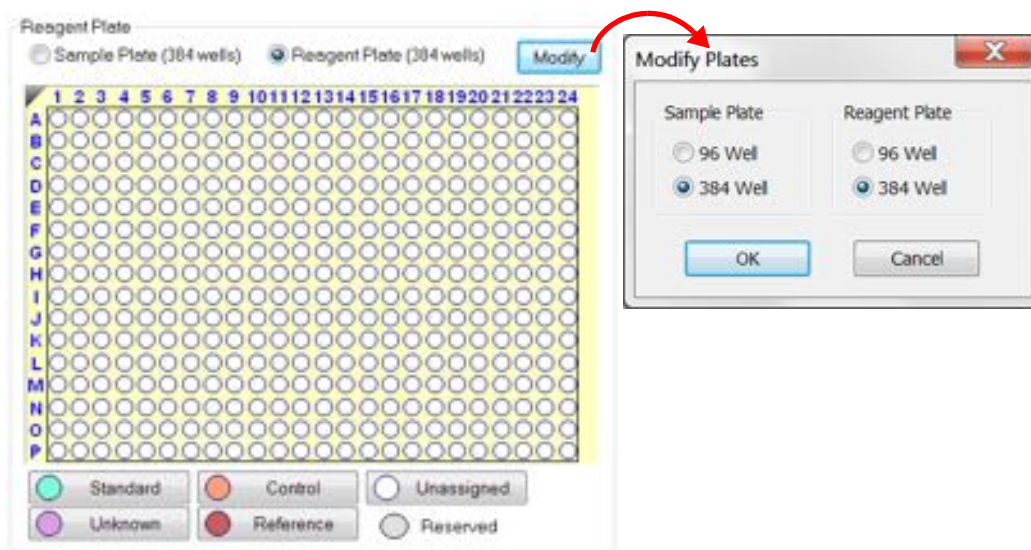

Figure 7-38: Modifying the Reagent Plate
1. Select the **Reagent Plate** radio button above the plate map to display the **Reagent Plate Map** (Figure 7-38).